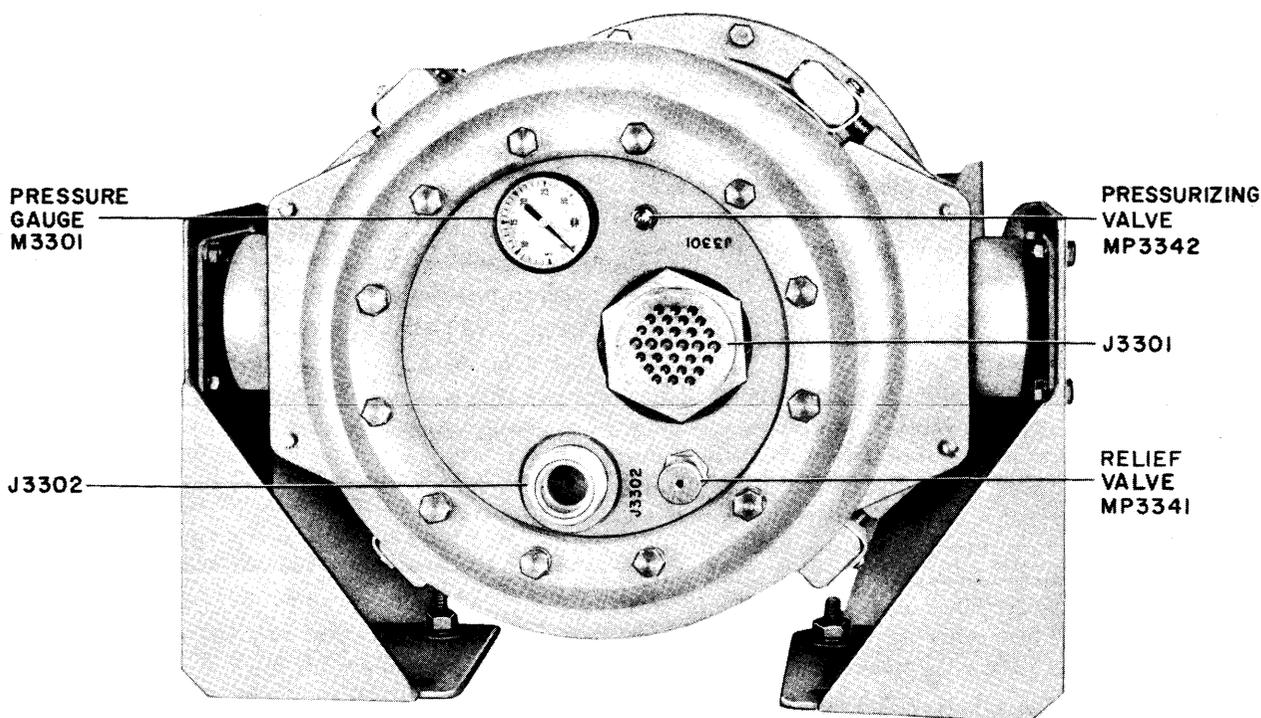

Figure 2-3. Radio Frequency Tuner TN-342/WRT-2, Pressurizing Adjustments
After obtaining these materials, refer to figure 2-3 and proceed in the following manner:
Step 2. Refer to figure 2-3, and open relief valve MP3341.
Step 5. Refer to figure 2-3 and connect the air chuck (attached to the other end of No. 9587 hose) to pressurizing valve MP3342.